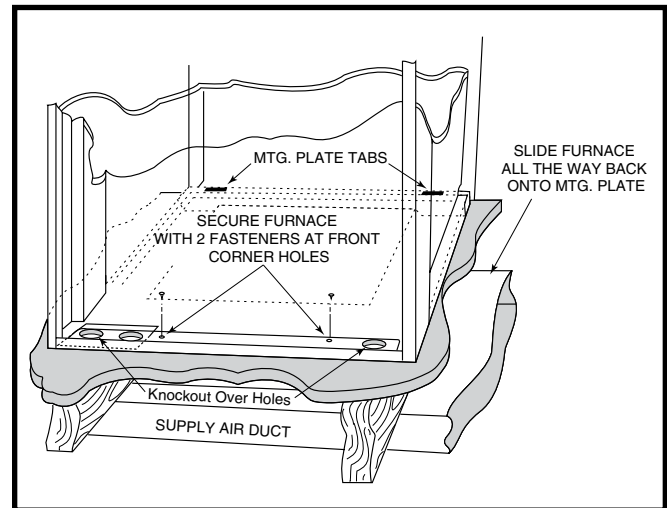
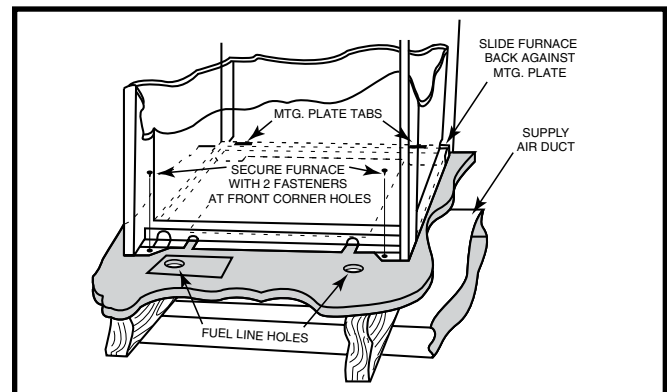

Figure 14. "A" & "B" Cabinet Furnaces
Figure 15. "A" Cabinet Furnace on Coil Cabinet
Sides and back of the furnace may be enclosed by wall framing such as in a closet or alcove. The dimensions of the room or alcove must be able to accommodate the overall size of the furnace shown in Figure 4 \(page 5\) and the installation clearances outlined on page 4. The furnace shall be appropriately connected to the supply distribution system as shown in Figure 14 \(page 8\) & Figure 15 \(page 8\).
4. Secure front with one (1) fastener at each corner. See Figure 14 & Figure 15.